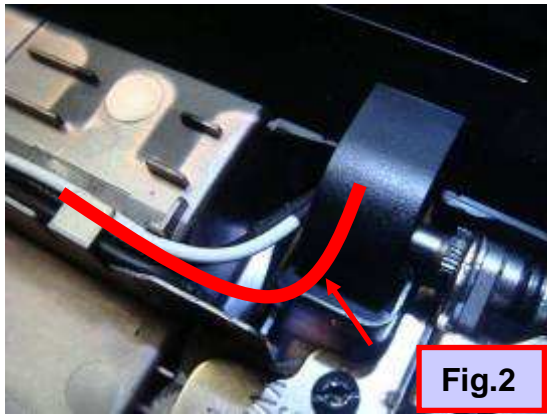

Fig.2
2. Disassemble MIC cable (Fig.2)